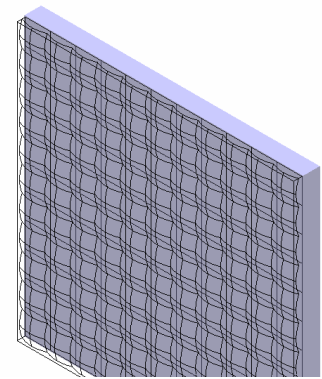

Figure 4. Lens array using 3D textures.
- **Micro-lens Arrays:** Three-dimensional surface texturing with various patterns and object shapes, virtually unlimited in size. Figure 4 shows an example.